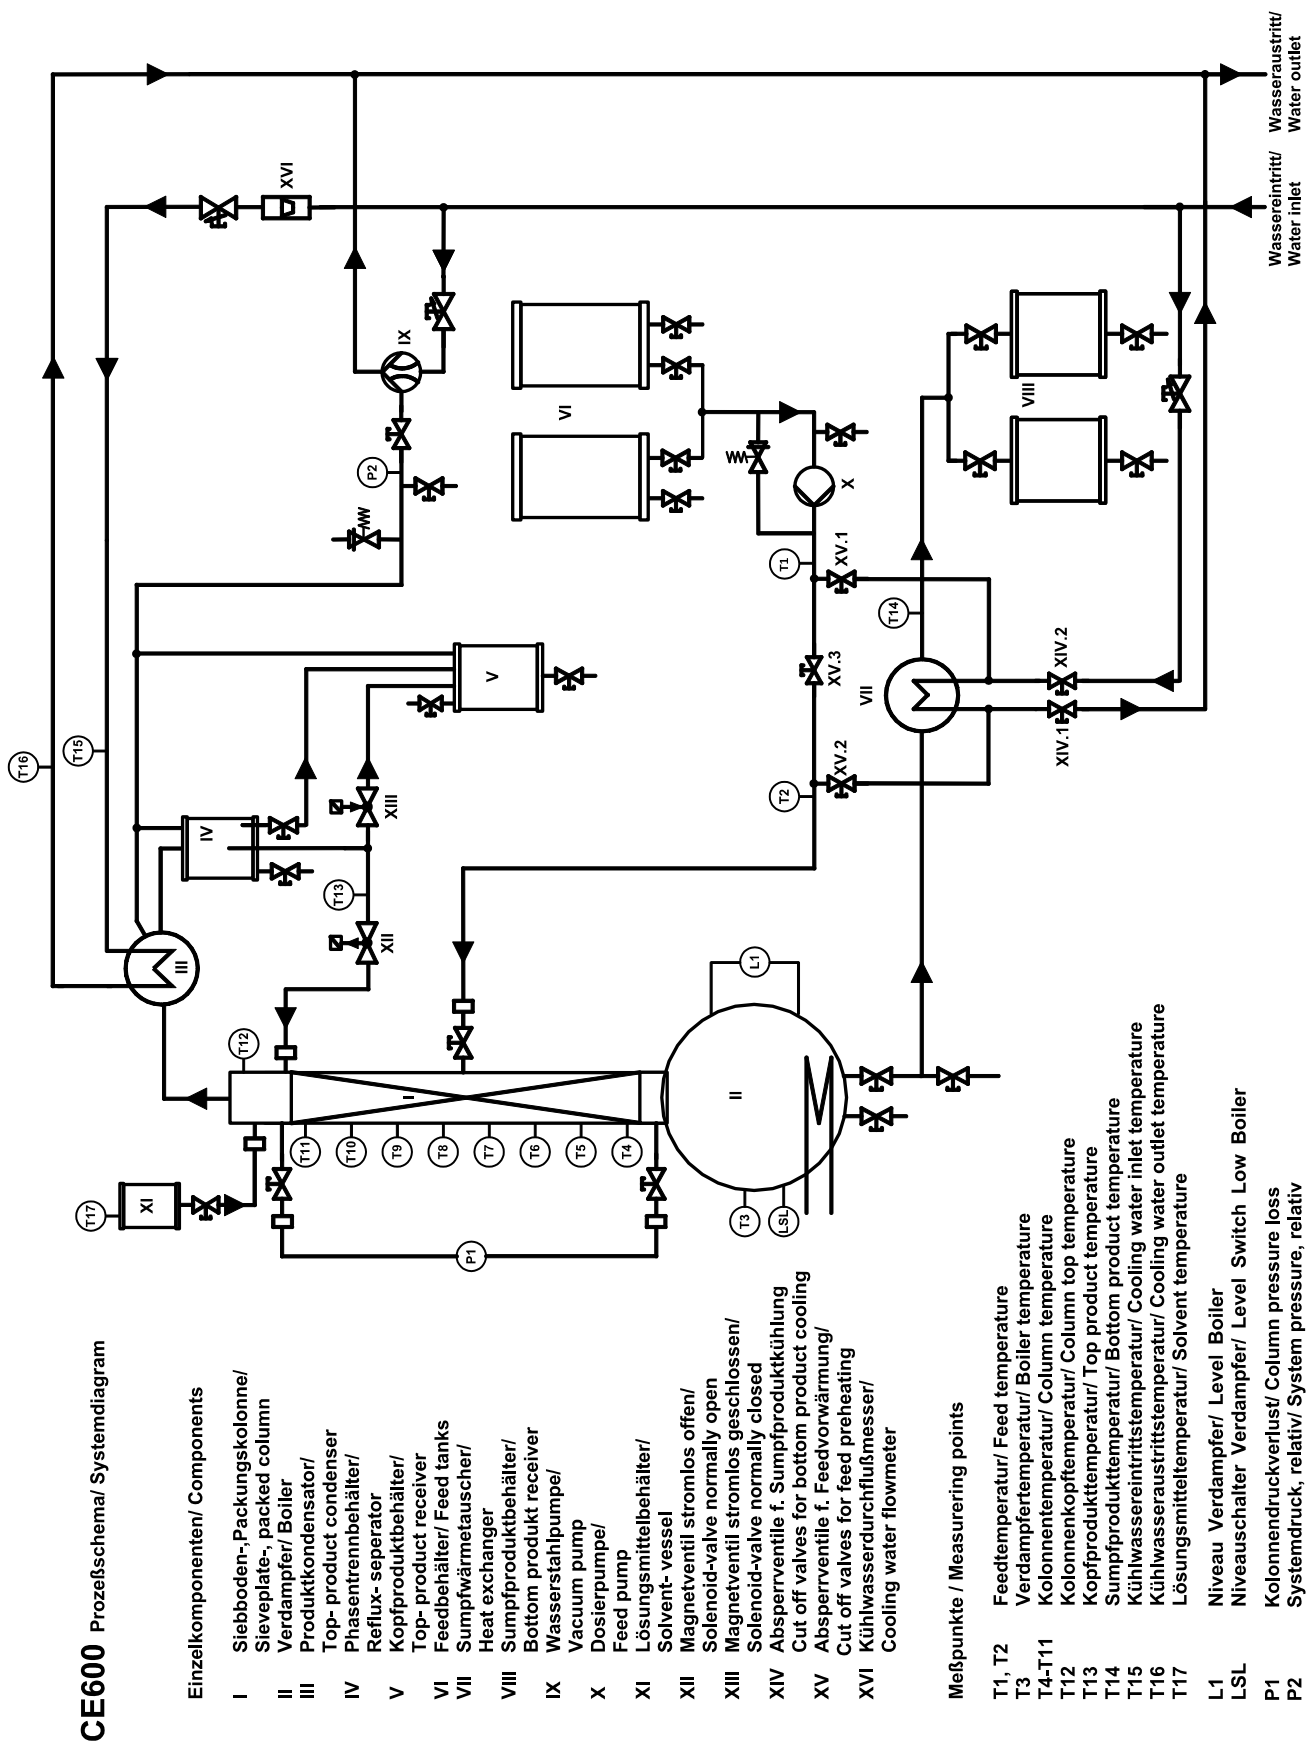

Figure 1: The process flowsheet for the CE600 unit.
5. Familiarise yourself with the column while it is inactive and cool. Locate the condenser (III), the phase separator (IV), the reboiler (II), the column pressure gauge (P2), the column pressure-drop transducer (P1), and the condenser cooling-water rotameter (XVI) (see Fig. 1).
15. Once the temperature in the reboiler (T3) reaches around 80°C the mixture will begin to boil. Write down the vapour temperature (T12) at which condensate is first seen entering the phase separator (IV).